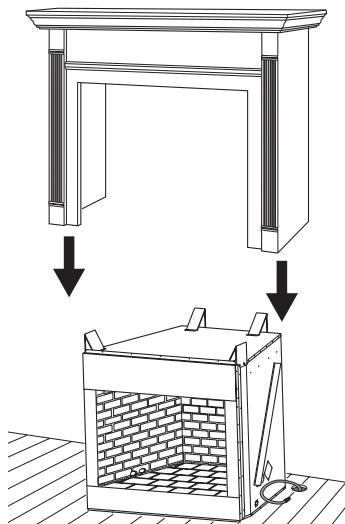

Figure 9 - Inserting Firebox Into Cabinet Mantel (Mantel May Vary From Illustration)
4. Carefully slide cabinet mantel over firebox. Be careful not to scratch firebox, cabinet mantel, flooring, etc., when installing (see Figure 9, page 11).